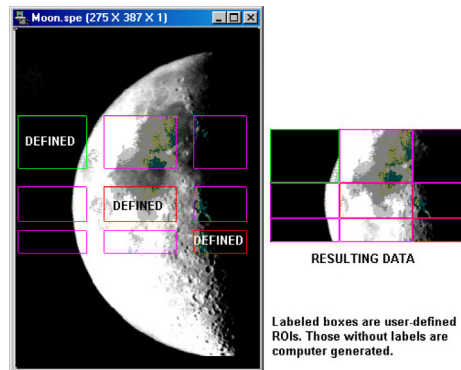

Figure 245. WinX/32 Side-Effect ROIs
**Note:** LightField version 3.0 SPE files are more complex than WinX/32 version 2.x SPE files. The LightField converter allows you to view the data in LightField. File information, however, will be limited and multiple ROIs will be displayed using the WinX/32 side-effect ROIs (*see Figure 245.*). Converted data can be exported but it cannot be used in post-processes.